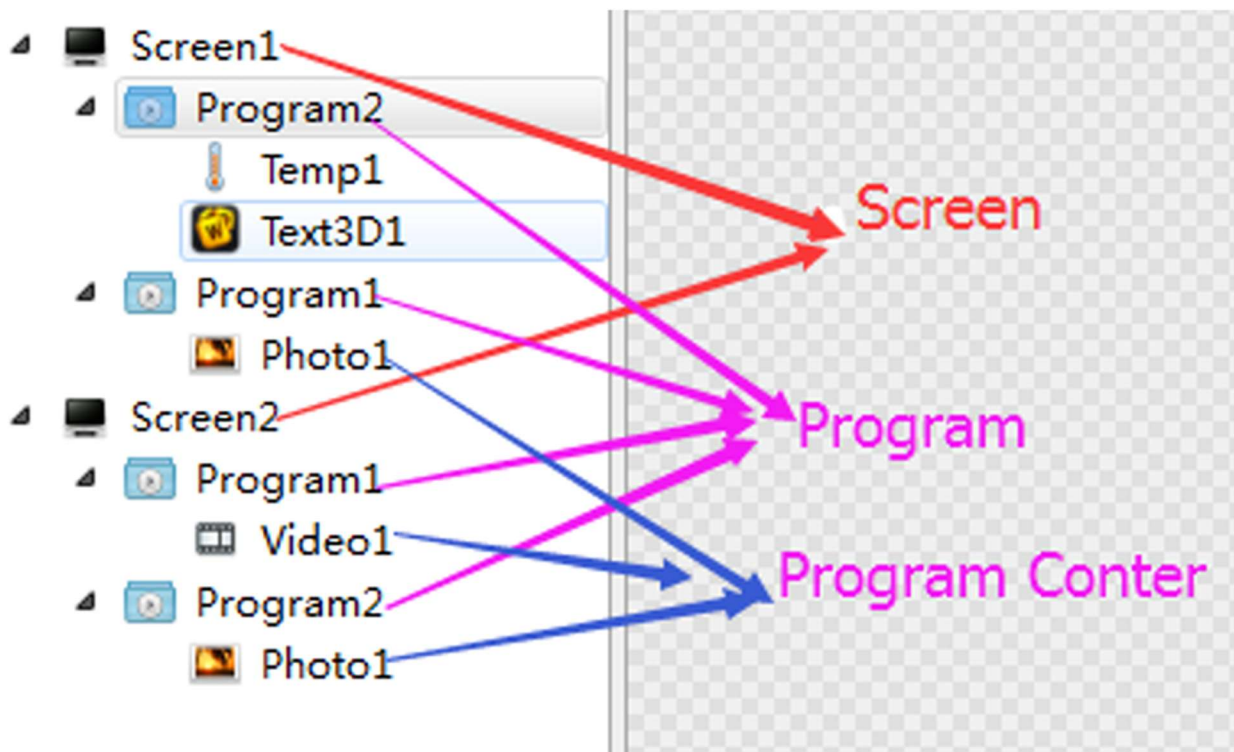

Fig.4-2 Program Structure
**Program content:** The specific content displayed on the LED screen. Including videos, pictures, texts, documents, clocks, timings, etc. The "play content" under the same program exists at the same time and is played at the same time. The content added first is at the bottom layer, and the content added later can cover the content added first, as shown in Figure 4-2, Program 2, 3D text of display screen 2, Will be overlaid on the picture.